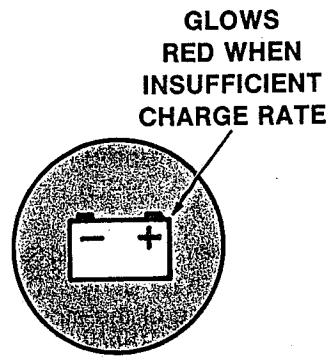

Fig. 16—Use of Color with Universal Ammeter or Generator Light
- Be able to identify universal symbols used to help identify controls. Color is often used with these symbols to indicate operating conditions (Fig. 16).